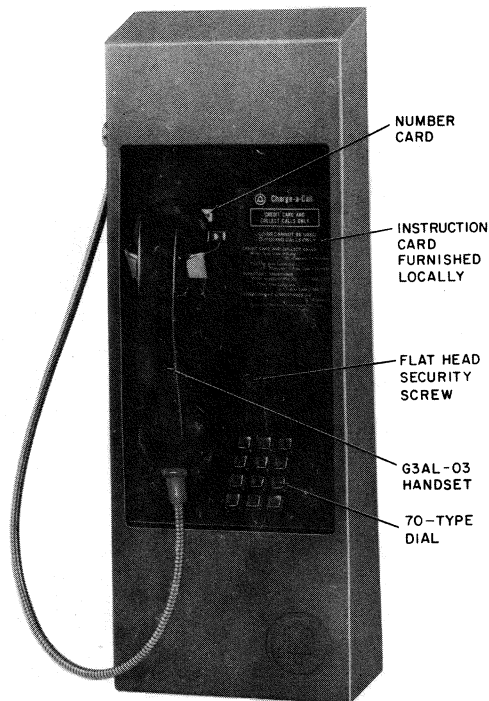

Fig. 1—10A Coinless Telephone Set
- (a) The 10A coinless telephone set (Fig. 1)
A. 10A Coinless Telephone Set (Fig. 1, 4, and 6)
2.06 The instruction card (Fig. 1 and 7) must be fabricated and procured locally.